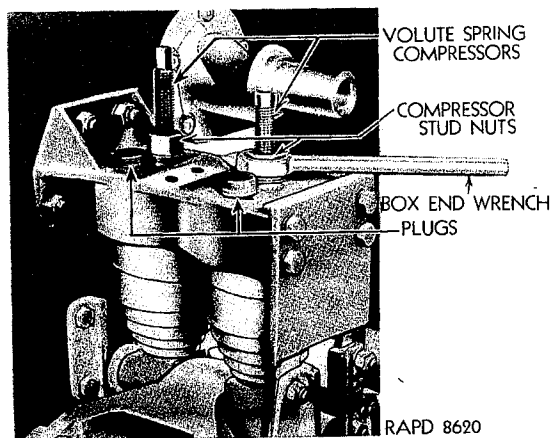

Figure 64—Compressing Volute Springs
(1) Remove track as explained in Paragraph 113.
(2) Remove volute spring plugs on top of bogie mounting bracket and install both bogie volute spring compressors, Tool No. A-157251, through mounting bracket and into volute spring seats. Tighten compressor lock nuts to lock springs in compressed position (Fig. 64).
(3) Jack up hull underneath bogie being removed and install support blocks. The hull should be supported enough above its normal position so that bogie is hanging on axle shaft. Remove six bolts holding bogie mounting bracket to side of hull.
(4) Remove axle cap locking screw and remove axle cap using special wrench, Tool No. B-146061.
(5) Pull bogie assembly off end of axle shaft.